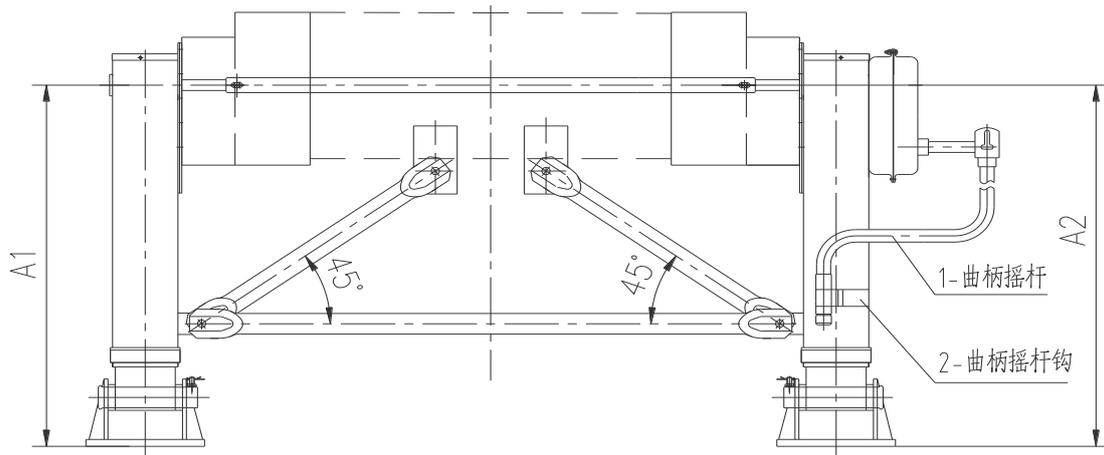

Figure 3
2.4 Adjust the hoisting height of two landing leg: the tolerance of A1 and A2 is less than 5 mm. In Figure 3